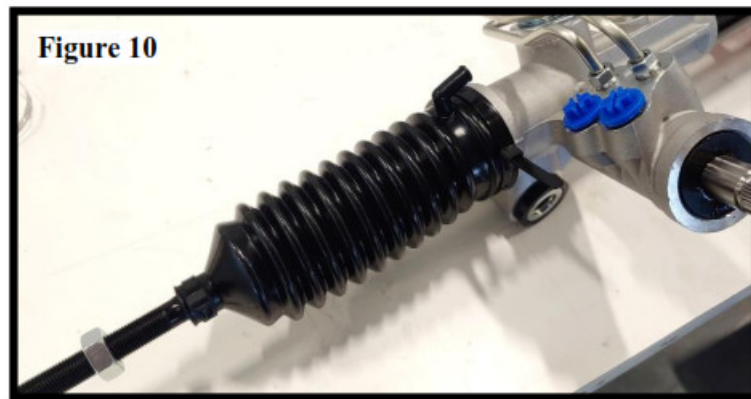

Figure 10
21. Once the rack extensions are installed on both sides of the rack, install the new dust boots and secure with ties. (Figure 10)